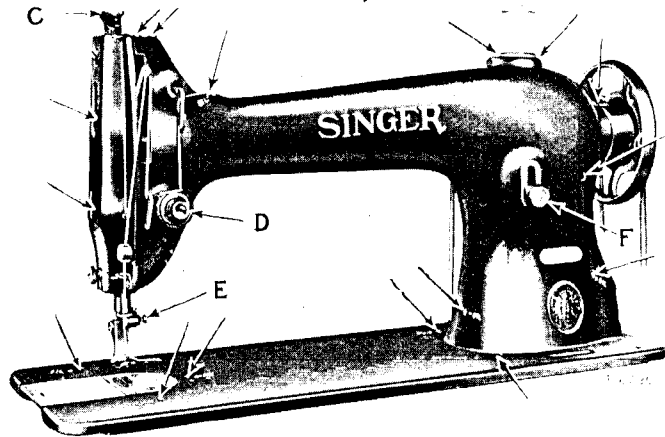

FIG. 2. OILING POINTS AND ADJUSTMENTS AT THE FRONT OF THE MACHINE
Oil should be applied at each of the places designated by arrows in Figs. 2, 3, 4 and 13. When the machine is in continuous use, it should be oiled at least twice each day.
Turn the balance wheel over toward you until the needle bar moves up to its highest point; loosen the screw (E, Fig. 2, page 4) in the needle clamp and put the needle up into the clamp as far as it will go, with the long groove of the needle toward the left and the eye of the needle directly in line with the arm of the machine, then tighten the screw.
The tension on the needle thread should only be regulated when the presser foot is down. Having lowered the presser foot, turn the small thumb nut (D, Fig. 2, page 4) at the front of the tension discs over to the right to increase the tension. To decrease the tension, turn this thumb nut over to the left.
The length of stitch is regulated by the thumb screw (F, Fig. 2, page 4) in the slot on the front of the upright part of the arm. To lengthen the stitch, loosen this thumb screw and move it downwardly. To shorten the stitch, loosen this thumb screw and move it upwardly. When the desired length of stitch has been obtained, tighten the thumb screw (F).
The pressure on the material is regulated by the thumb screw (C, Fig. 2, page 4). To increase the pressure, turn this thumb screw over to the right. To decrease the pressure, turn this thumb screw over to the left.